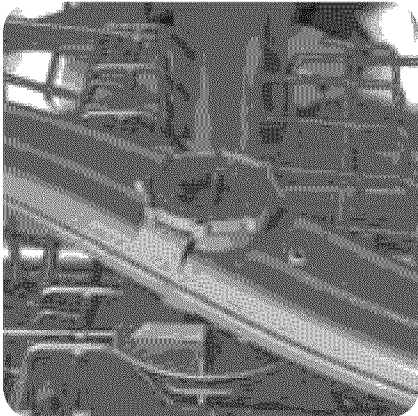
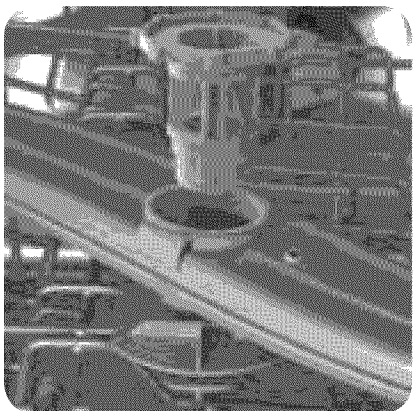

FIGURE 30
FIGURE 31
2. Turn the rack upside-down. The top spray arm is held in position by a locking nut as shown in Figure 30. Turn the locking nut counter-clockwise 1/8 turn and remove it, as shown in Figure 31 to release the spray arm.